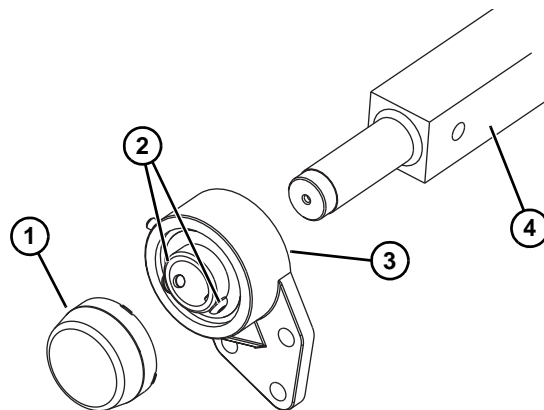

Figure 66
2. Remove the bearing cover (**Figure 66, item 1**).
3. Use a hex wrench to loosen the bearing shaft assembly fasteners (**Figure 66, item 2**).
4. Slide the bearing flange assembly (**Figure 66, item 3**), off the spindle shaft end (**Figure 66, item 4**).